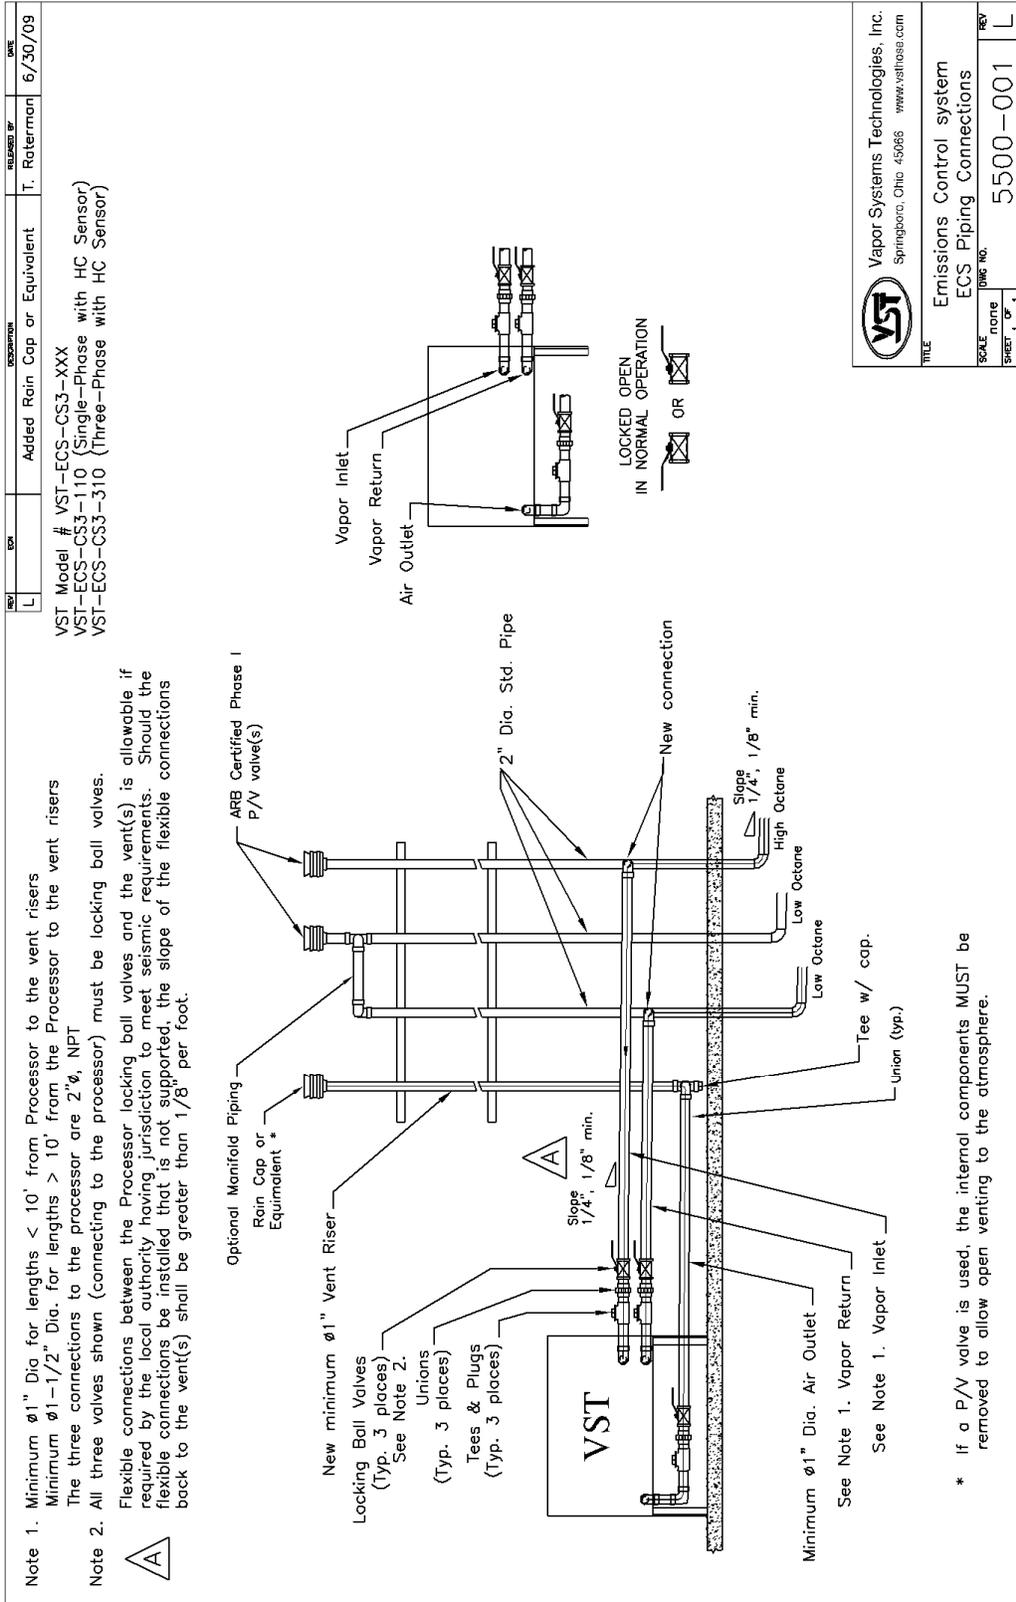

Figure 17: ECS Processor Piping Diagram
- See Figure 17 for pipe size requirements.
The tee and the ball valve allow for isolation of the *Processor* from the vapor-piping system for maintenance and testing. See Figure 17.
See Figure 17.